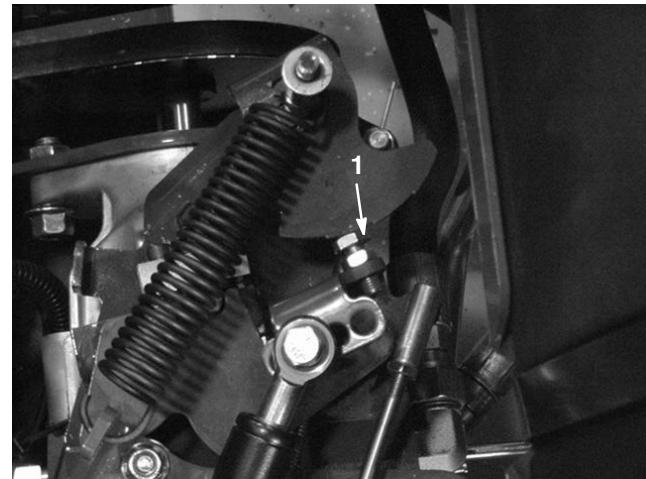

Figure 62
5. If an adjustment is needed, turn the pump stop bolt (Fig. 62) closer to the stop plate to decrease hole spacing or turn stop bolt away from stop plate to increase hole spacing.